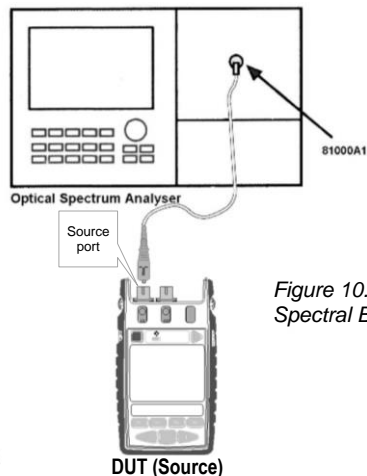

Figure 10. Centre λ and Spectral Bandwidth tests
1. Connect the equipment as shown in Figure 10 (next page).